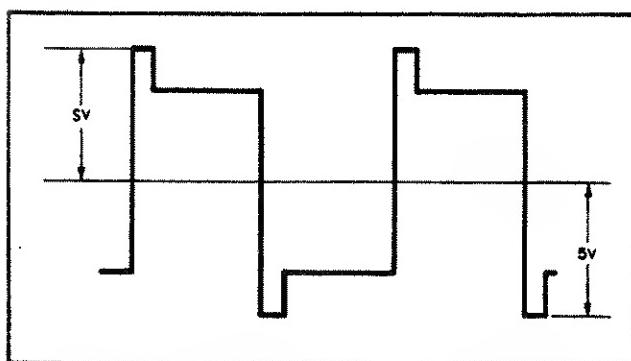

Figure 5-15. Overcurrent Protect Test Waveform
d. Turn on BPS/A and observe waveforms (see Figure 5-15). Overshoot should not exceed 5V p-p.